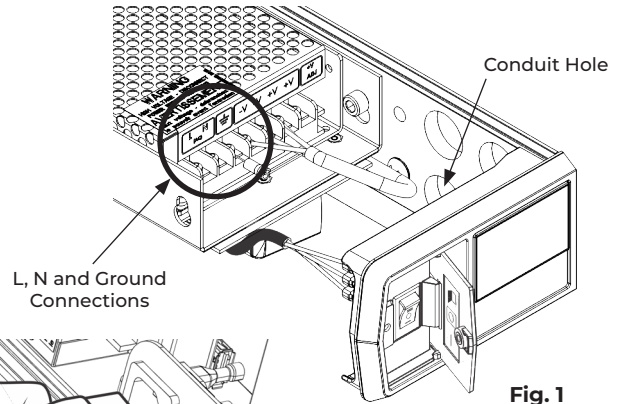

Fig. 1
1. With building power feed turned off, route 120VAC wiring through conduit hole in backplate. (Fig. 1)
2. Connect 120VAC power to power supply: HOT to "L", NEUTRAL to "N", GROUND to Ground. (Fig. 1)